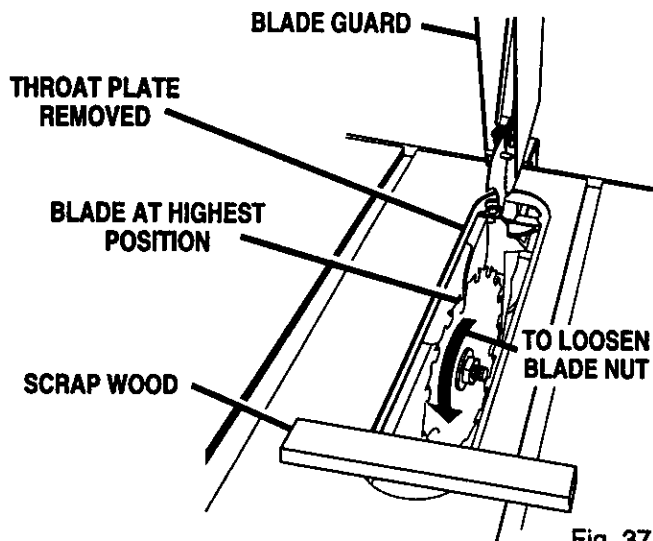

Fig. 37
See Figures 37, 38, and 39.
- Raise the blade to its highest position by turning the height handwheel clockwise. Angle the blade straight up by loosening the bevel lock handle and turning the bevel handwheel. Wedge a piece of scrap wood against the front of the blade. See Figure 37.